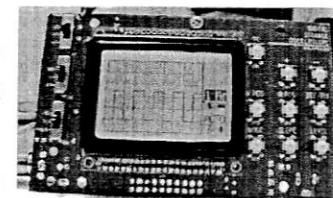

Fig. 3
- 2) Connect the red clamp to the test signal terminal located at top-left corner of the panel, as shown in Fig. 3.
- 5) Press [V.POS] button, adjust 0V indicator to the second last vertical scale as shown in Fig. 3.
- 7) Set Y sensitivity switch 2 (to top one) to X2 position. Waveform similar to that shown in Fig. 3 should be seen.